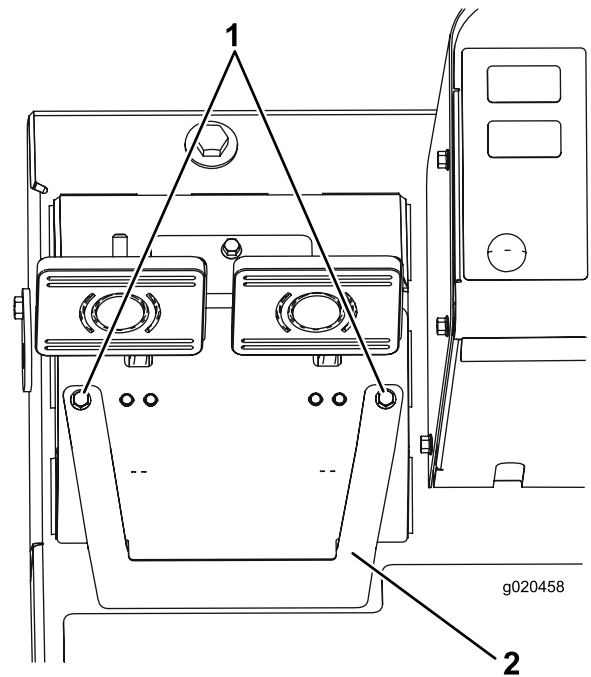

Figure 67
- A. Loosen the 2 mounting screws and remove the brake adjustment cover (Figure 67).